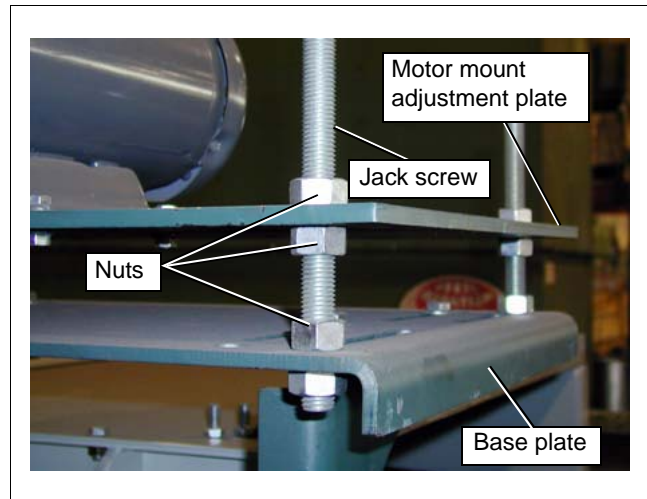

Figure 6T
- Thread nuts onto jack screws. (See Figure 6T.) Place bolt through motor mount bracket and base plate. Thread another nut onto jack screws to secure. Repeat for three (3) remaining jack screws.
- Thread another nut onto all four (4) jack screws. Place adjustment plate onto jack screws. Thread another nut onto each jack screw to secure adjustment plate. Use these nuts to adjust the motor height.